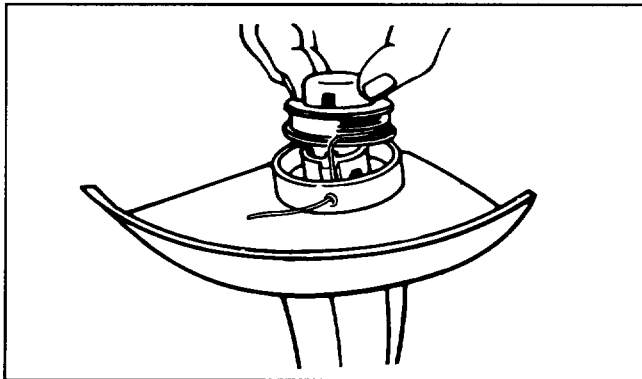

Figure 20
- D. The spool and the core are keyed. Be sure they are properly aligned when putting spool back on. Thread end of line through eyelet, place spool on keyed core, and push in place until you hear it click. Pull line free from groove in spool. Unwind no more than 3 inches from spool (Fig. 20).